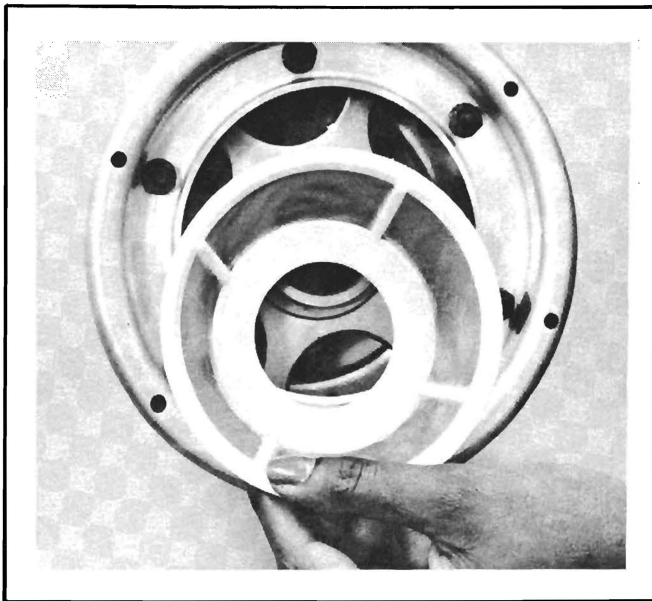

Figure 32. Removing Disk Pack Filter
3. Remove the filter from the hub. (See Figure 32.)